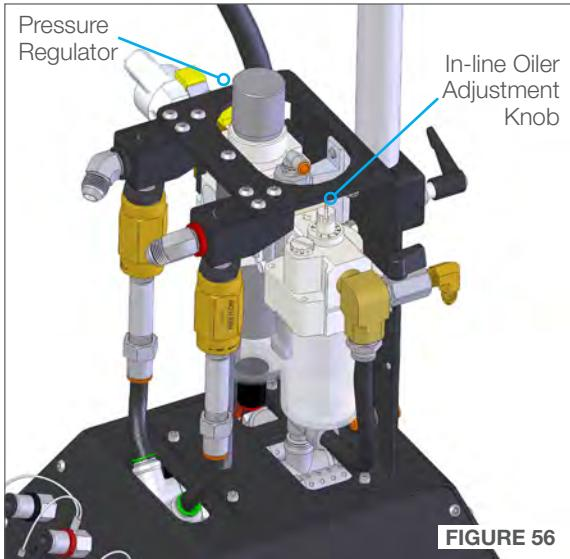

FIGURE 56
1. Using the Pressure Regulator on the FRL, adjust the operating pressure to 100 psi (6,8 bar) for the application. (Figure 56)
2. Adjust in-line oiler to feed 1 drop of oil every 30-60 seconds for high speed or continuous duty usage. (Figure 56)